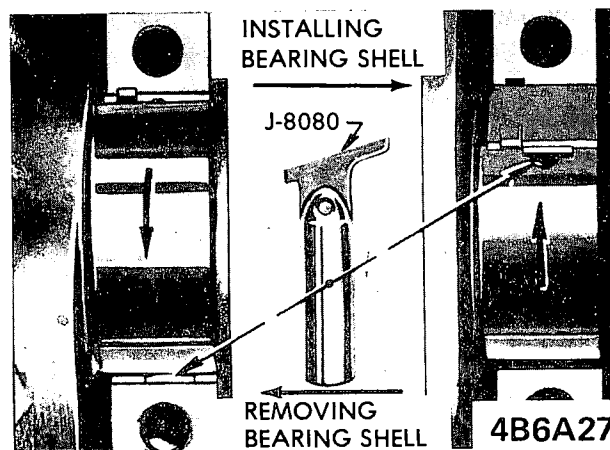

Figure 6A-74 - Removal and Installation of Crankshaft Bearing Upper Shell
7. Remove upper bearing shell by inserting Bearing Shell Remover and Installer J-8080 in oil hole in crankshaft, then slowly turning crankshaft so that the tool rotates the shell out of place by pushing against the end without the tang. See Figure 6A-74.